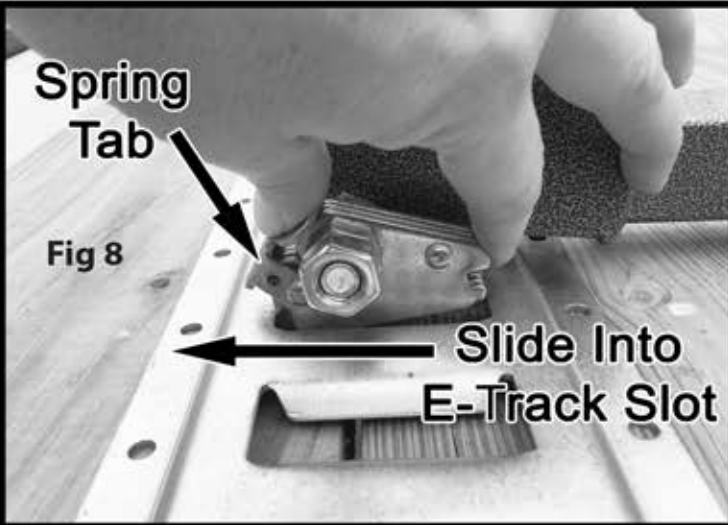

Fig 8
- Position the outside of the fitting into the E-Track slot and slide (Fig 8)